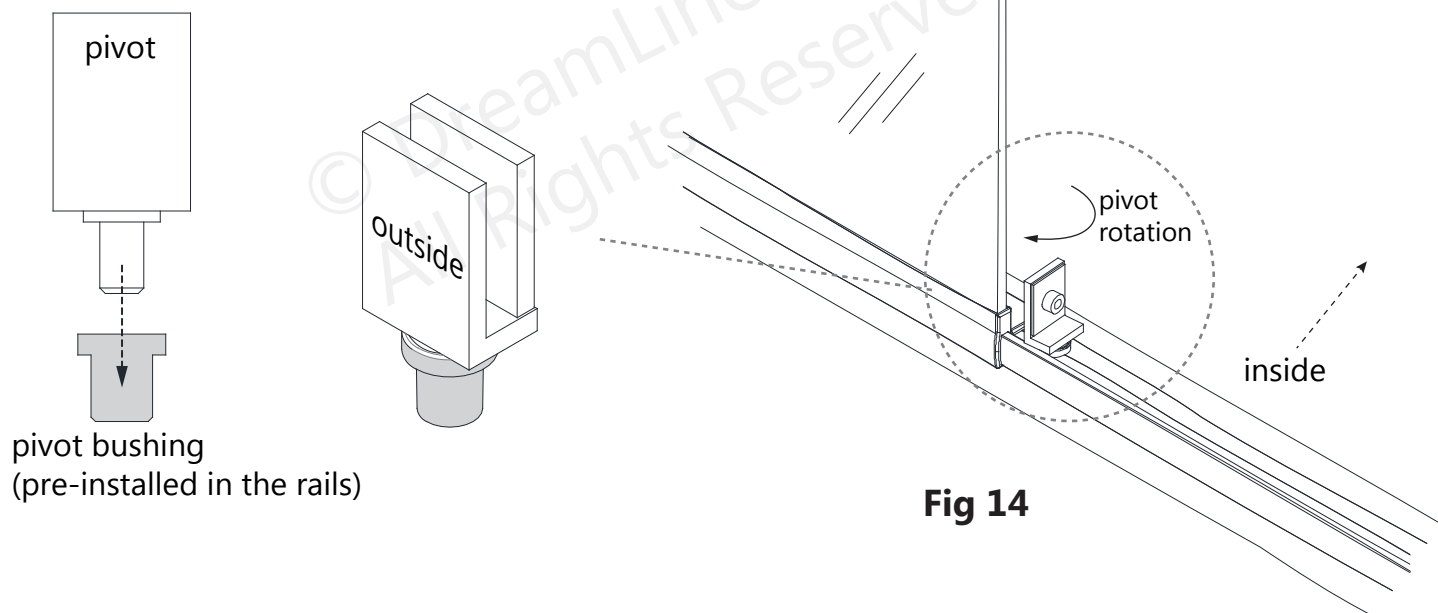

**Fig 14**
**14.** Install the **Top & Bottom Pivot Hardware (#16)** into the pivot bushings in the **Top & Bottom Pivot Rails (#15)**. **(Fig 14)**